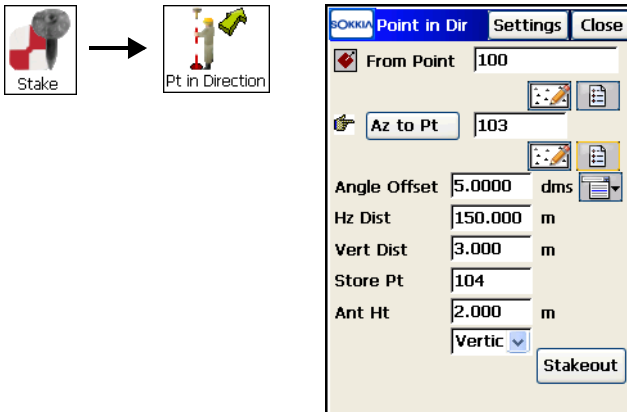

Figure 9-11. Stakeout Point & Direction
1. To perform a Point and Direction stakeout, tap **Stake ▶ Point in Direction** (Figure 9-11).
Enter the name of the stakeout point in the *Store Pt* field. Tap the **Stakeout** button (Figure 9-11 on page 9-8).